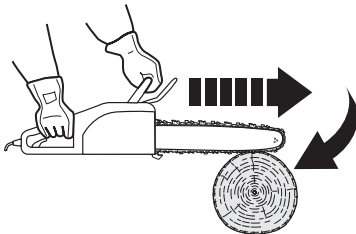

Fig. 26
- > Pinching of the saw chain (4) along the bottom of the guide bar (5) may pull the product forward away from the operator (Fig. 26).